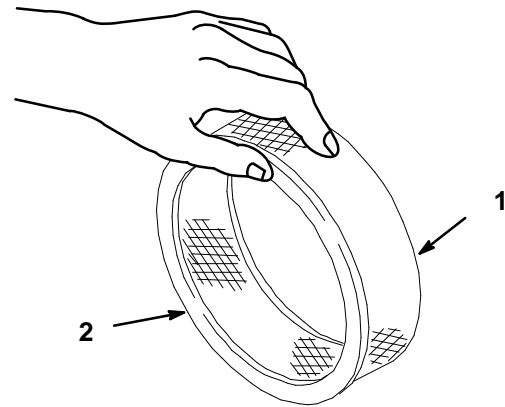

Figure 9
- A. Lightly tap the element on a flat surface to remove dust and dirt (Fig. 9).